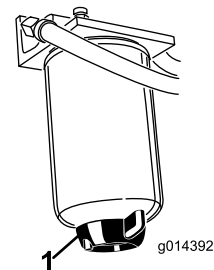

Figure 38
Drain the water or other contaminants from the water separator (Figure 38) daily. Replace the filter canister after every 400 hours of operation.
2. Loosen the drain plug on the bottom of the filter canister (Figure 38).